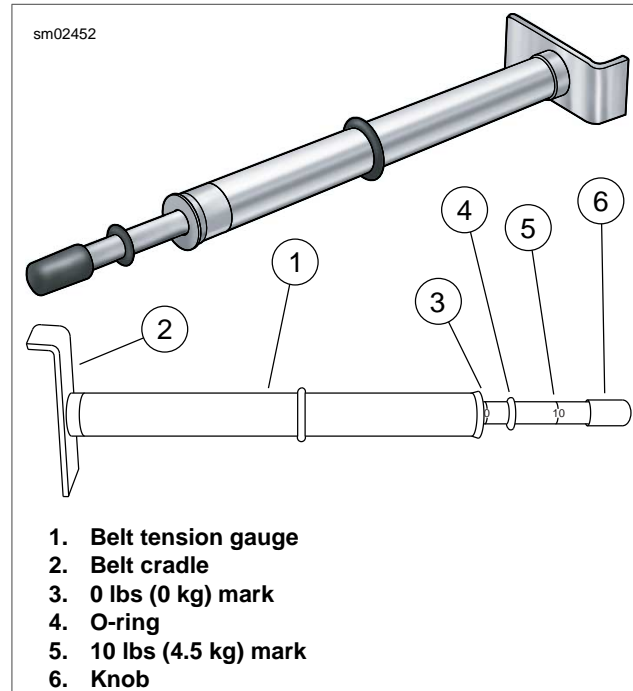

Figure 1-25. Belt Tension Gauge (Part No. HD-35381-A)
1. See Figure 1-25. Obtain H-D BELT TENSION GAUGE (Part No. HD-35381-A).